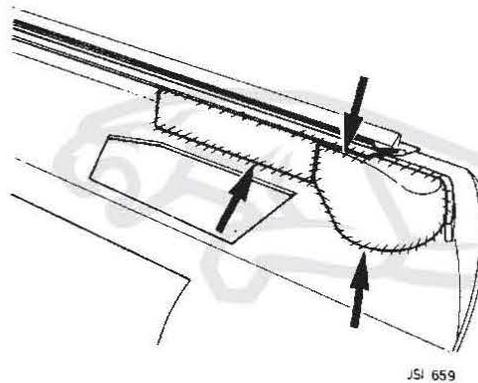

FIG. 6
- 6 Top roll side window demist ducting LH and RH front doors - Fig 6
Some incidence of air leakage has been identified at the locations indicated in Fig 6. If when checking the vehicle for wind noise this area is suspected, the following rectification should be carried out:
- 2 Apply sealant C around the edge of the plastic air duct to seal between the duct and the top roll (Fig 6).